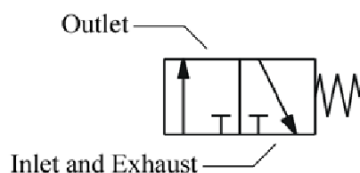

Fig. 16 3/2 directional control valve
2. The pneumatic symbol of a directional control valve is formed by one or more squares. The inlet and exhaust are drawn underneath the square, while the outlet is drawn on the top. Each function of the valve (the position of the valve) shall be represented by a square. If there are two or more functions, the squares should be arranged horizontally (Fig. 16).